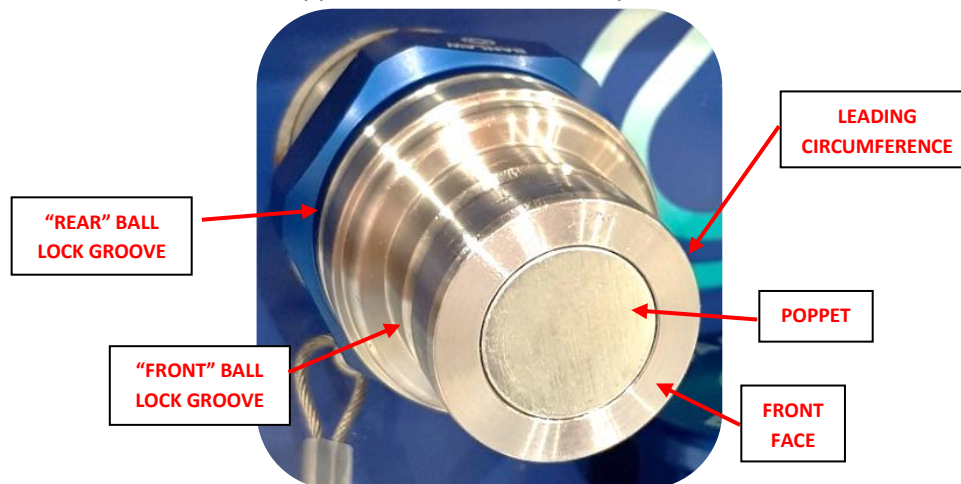
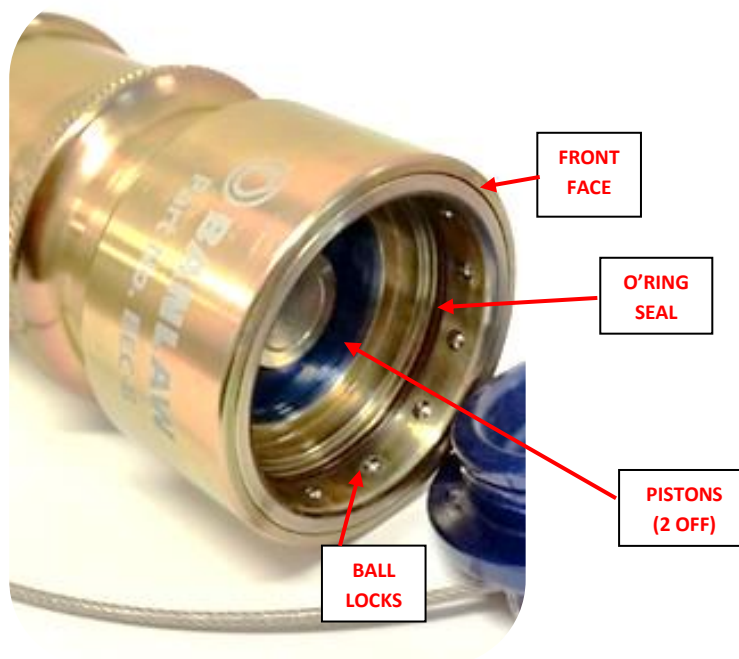

Figure 11 - Critical Areas of Damage on BPL Receivers
Figure 13 - Critical Areas of Damage on the Evacuation Coupling
- **Closely** inspect the front area of the BPL **Receiver** (Figure 11) and Evacuation Coupling (Figure 13) for excessive wear or damage;
Leakage from between Evacuation Coupling and Receiver when connected	<ul style="list-style-type: none"> • Faulty internal seal – replace Evacuation Coupling; <ul style="list-style-type: none"> ○ The O’ring seal within the front of the Evacuation Coupling – refer Figure 13 and section 6.1 – is especially vulnerable to damage and may require regular replacement; <ul style="list-style-type: none"> ▪ BS033 Viton (or NBR) for BEC-B. ▪ BS033 Fluorosilicone for BEC-B-CT. • Contamination causing poor sealing. Attempt to rectify by flushing the Evacuation Coupling with a (compatible) clean liquid. • Couplings improperly connected – refer section 5. • Damage to a sealing face within the Evacuation Coupling or on the Receiver. Identify, repair damage, or replace damaged coupling.